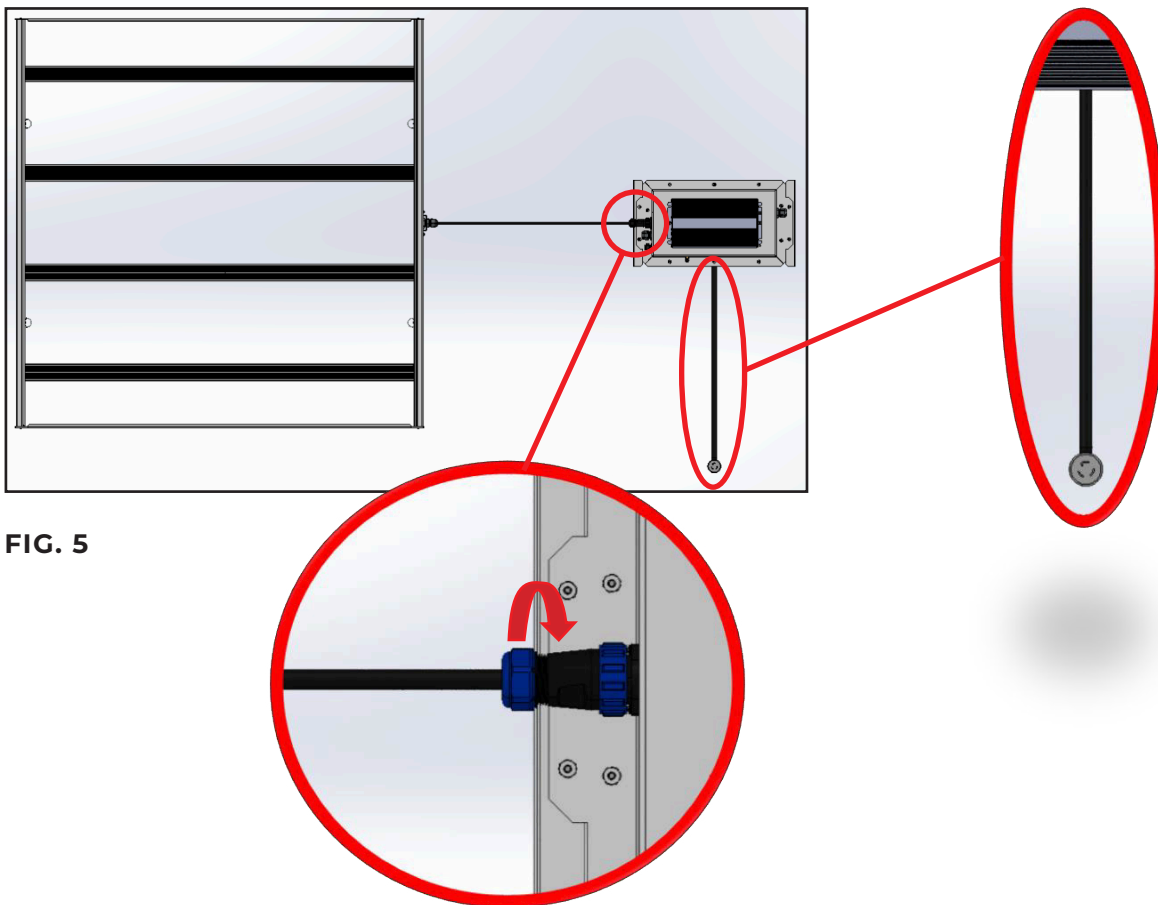

FIG. 5
7. Turn connector nut clockwise to secure the connection on luminaire and driver box (FIG. 5).